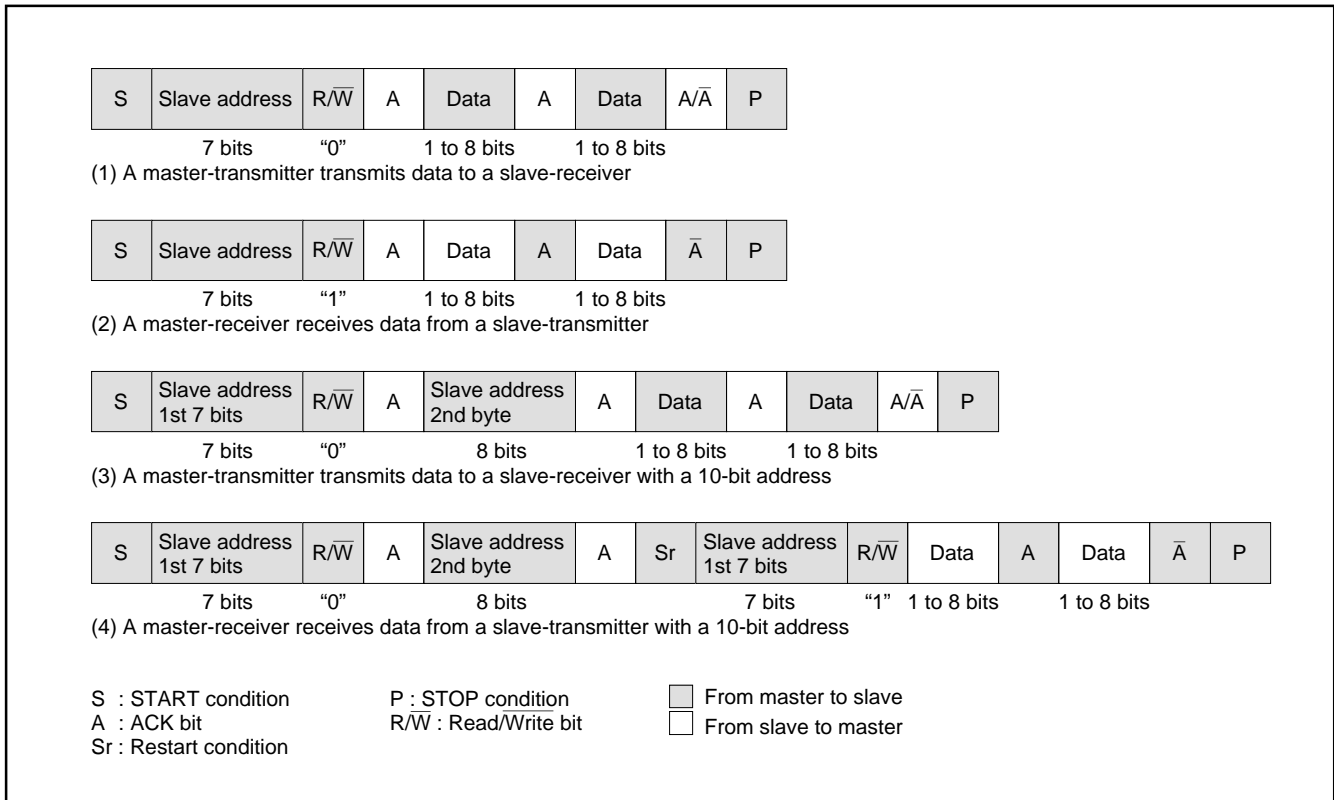

Fig. 52. Address Data Communication Format
① 7-bit addressing format
To meet the 7-bit addressing format, set the 10BIT SAD bit of the I²C control register (address 00F9₁₆) to "0." The first 7-bit address data transmitted from the master is compared with the high-order 7-bit slave address stored in the I²C address register (address 00F7₁₆). At the time of this comparison, address comparison of the RBW bit of the I²C address register (address 00F7₁₆) is not made. For the data transmission format when the 7-bit addressing format is selected, refer to Figure 52, (1) and (2).
② 10-bit addressing format
When the first-byte address data matches the slave address, the AAS bit of the I²C status register (address 00F8₁₆) is set to "1." After the second-byte address data is stored into the I²C data shift register (address 00F6₁₆), make an address comparison between the second-byte data and the slave address by software. When the address data of the 2nd bytes matches the slave address, set the RBW bit of the I²C address register (address 00F7₁₆) to "1" by software. This processing can match the 7-bit slave address and $\overline{R/W}$ data, which are received after a RESTART condition is detected, with the value of the I²C address register (address 00F7₁₆). For the data transmission format when the 10-bit addressing format is selected, refer to Figure 52, (3) and (4).
(11) Example of Master Transmission